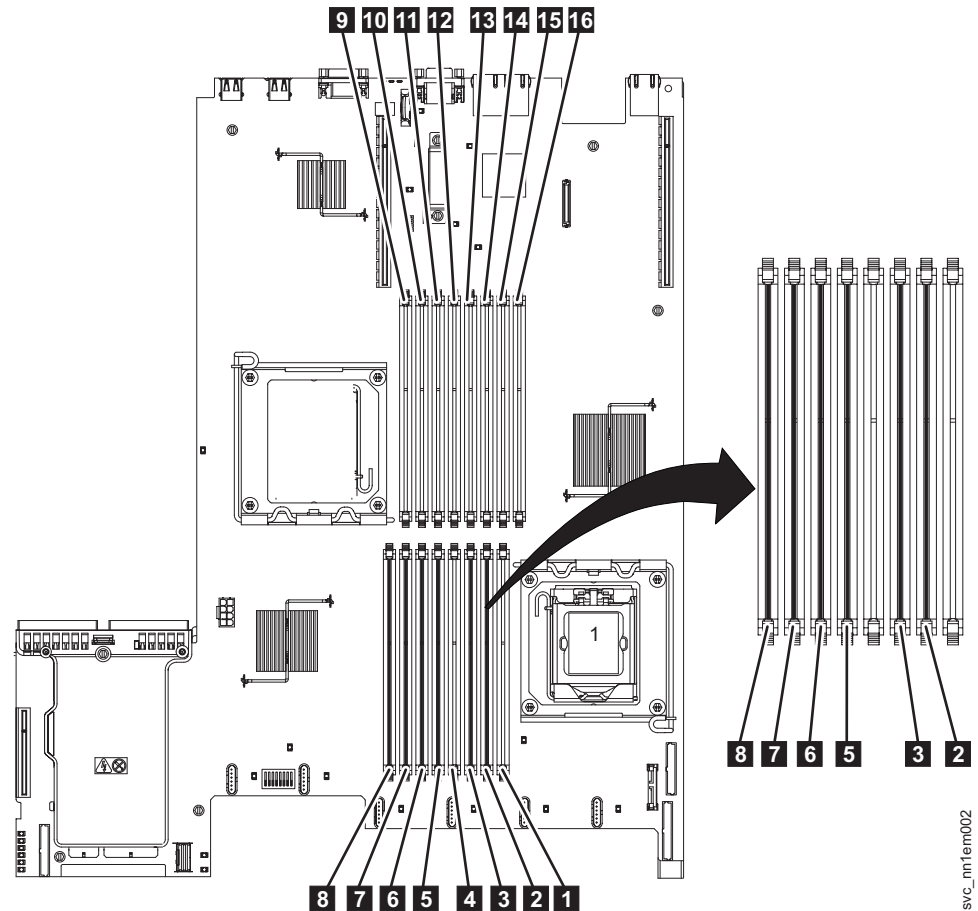

Figure 95. Locating the SAN Volume Controller 2145-CF8 memory modules
- SAN Volume Controller 2145-CF8: The SAN Volume Controller 2145-CF8 node uses six modules in DIMM slots **2**, **3**, **5**, **6**, **7**, and **8**, as shown in Figure 95.